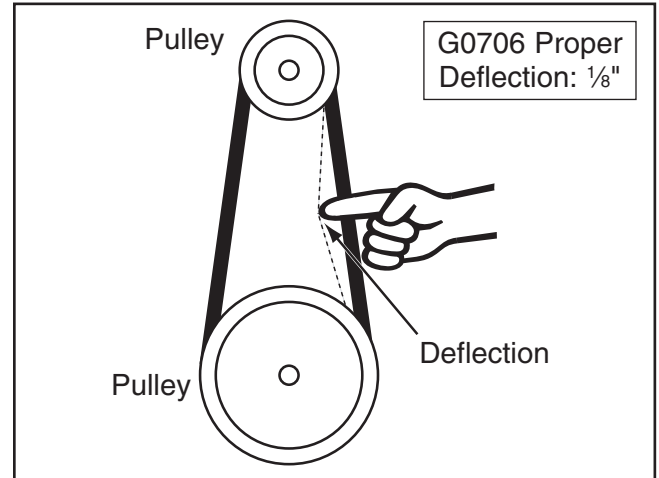

Figure 65. Checking belt deflection.
3. Using your index finger or thumb, push the center of the belt (between the pulleys) with moderate force, and note the amount of deflection observed (see **Figure 65**).